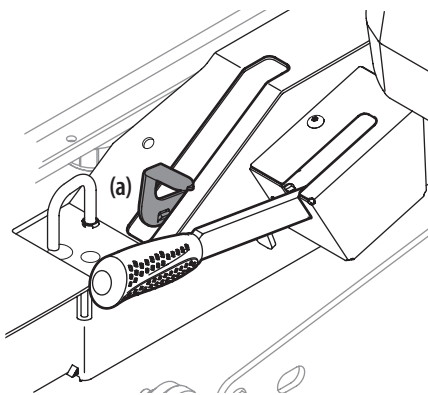

Figure 4-6
1. Engage the transmission bypass valves by pulling the bypass lever (a) upward and all the way back. See Figure 4-6.